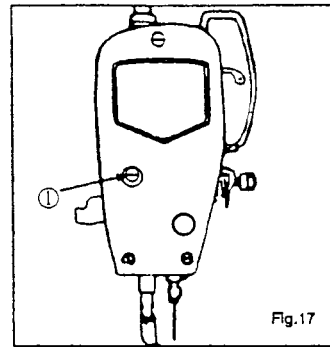

Fig.17
2. In this position the line 'A' on the needle bar should align with the lower edge of the lower needle bush ③. If these two marks do not line up then the needle bar height has to be altered. Loosen needle bar connecting stud screw ① and reposition the height of the needle bar. With the two marks aligned, retighten the needle bar connecting stud screw ①.
3. Loosen the two set screws on the hub of the rotating hook, and turn handwheel until the lower line 'B' on the needle bar ② aligns with the lower edge of lower needle bar bush ③.
4. Now turn the rotating hook on the hook shaft until the hook point ⑥ is in line with the center line of the needle ⑤. The clearance between the rotating hook and the needle in this position should be 0.02~0.05 m.m.. In this position retighten the two set screws on the hub of the rotating hook.
15. To adjust presser bar height (Fig. 17)